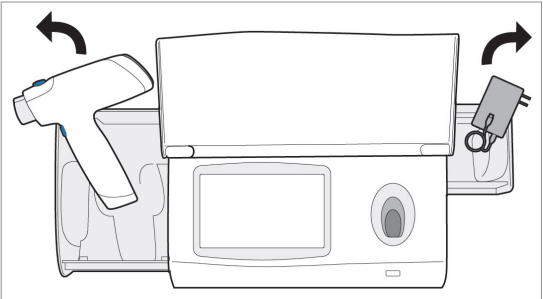

Figure 9 Handset and Power Supply
1. **Unpack the Handset and power supply from the drawers of the Base Station (see Figure 9).**